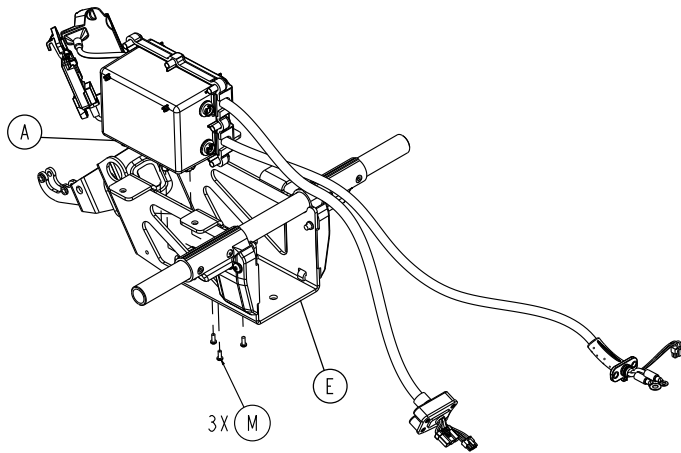

Figure 88 – Remove the HBC enclosure assembly screws
24. Using a T25 Torx driver, remove the three pan head tapping screws (M) that secure the HBC enclosure assembly (A) to the bird cage (E) (Figure 88). Save the screws.